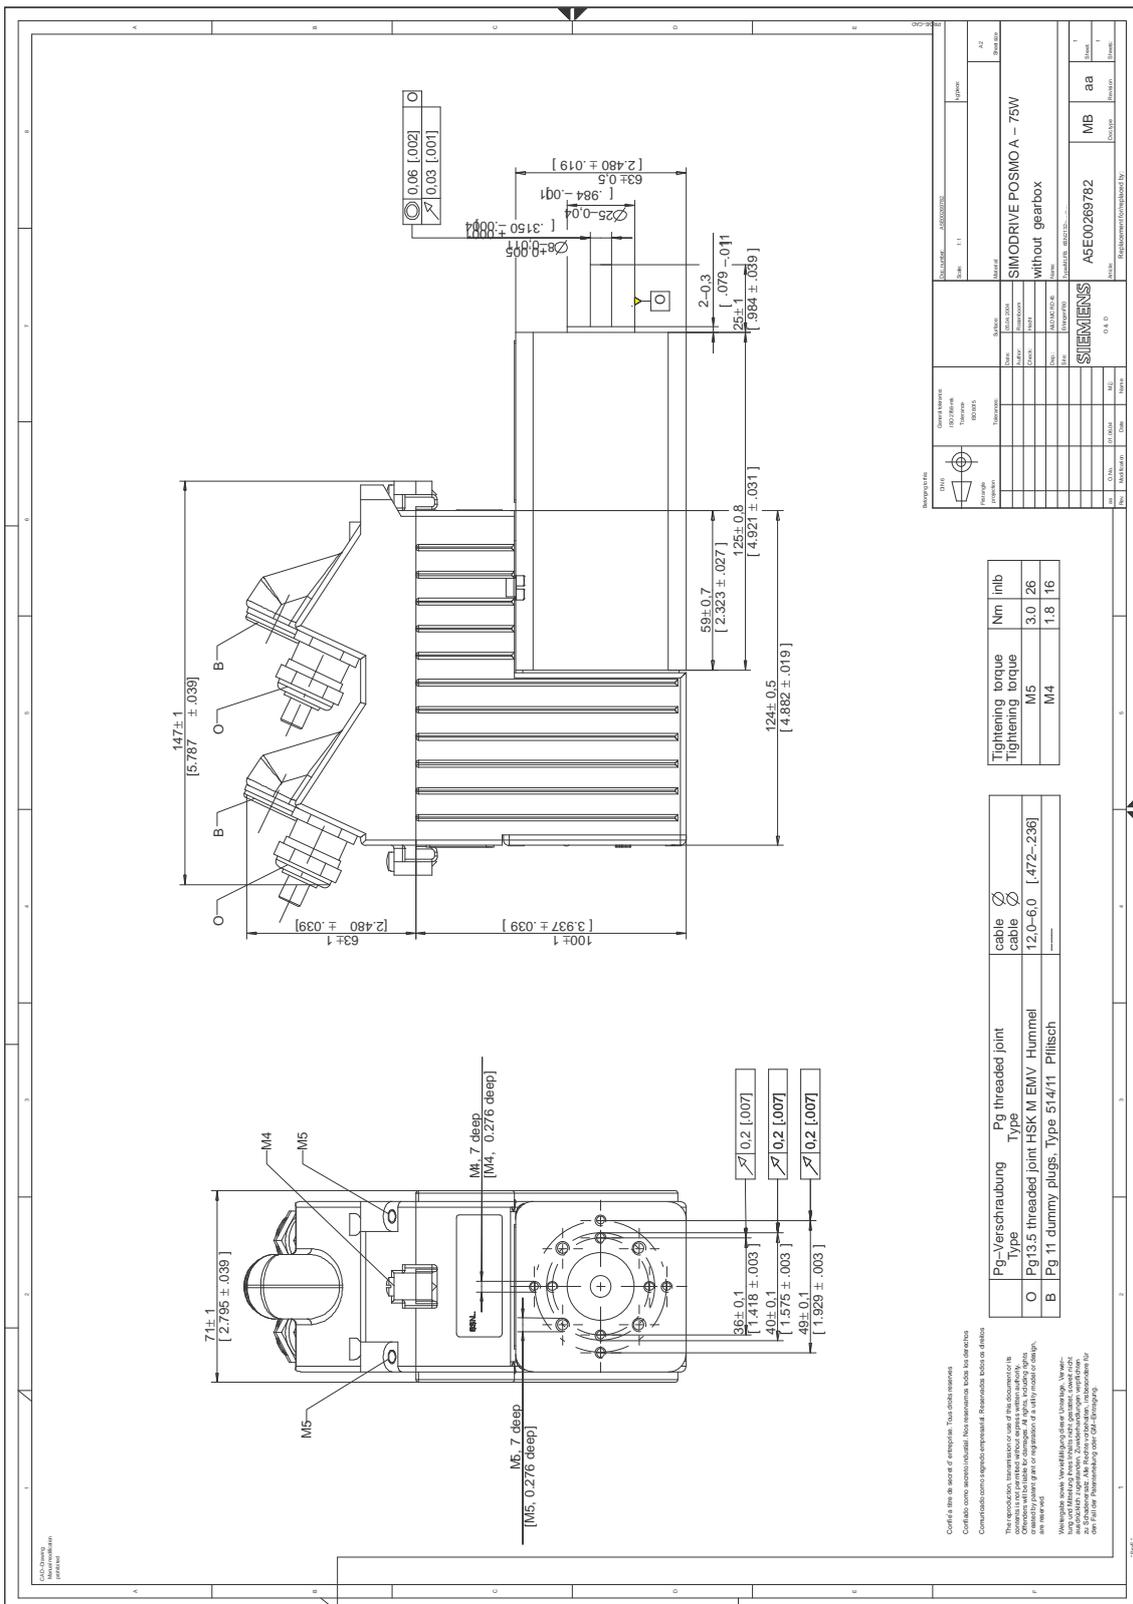

Fig. C-1 Dimension drawing: SIMODRIVE POSMO A – 75 W without gearbox
- Motor without gearbox —> refer to Fig. C-1